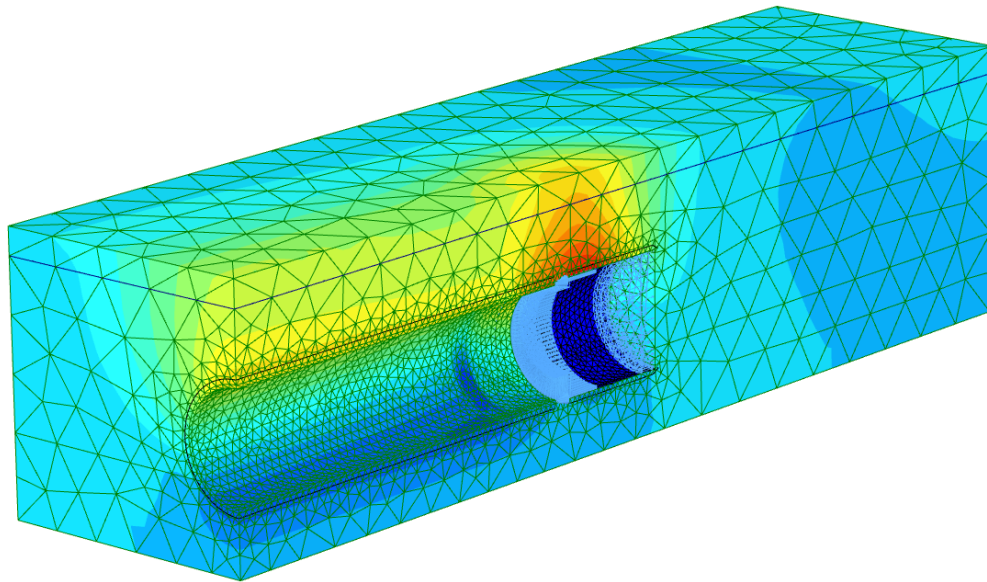

Figure 92: Total vertical displacements after the final phase $u_z \approx 3.1 \text{ cm}$
3. From the *Deformations* menu, select *Total displacements* and then u_z in order to see the total vertical displacements in the model as a shaded plot (Figure 92 (on page 115)).